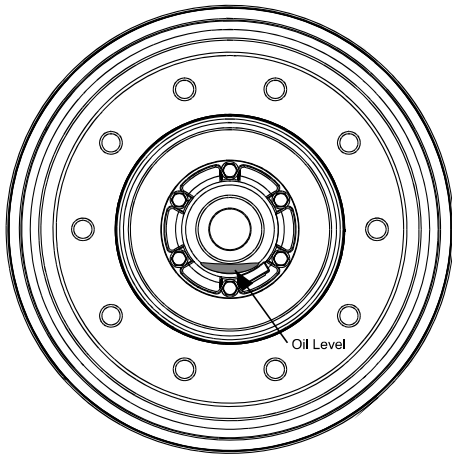

Figure 19 - Wheel Bearing Oil Level
17. Check oil level through the hubcap window. (**Figure 19**). If level is below the “add” level line, then fill with recommended oil until “full” level is achieved. Add oil slowly since the heavy weight oil will settle slowly in the hub. (Note: The hubcap window can only be cleaned with mild soap and water. Aromatic solvents should not be used, as they will impair the transparency of the window.)